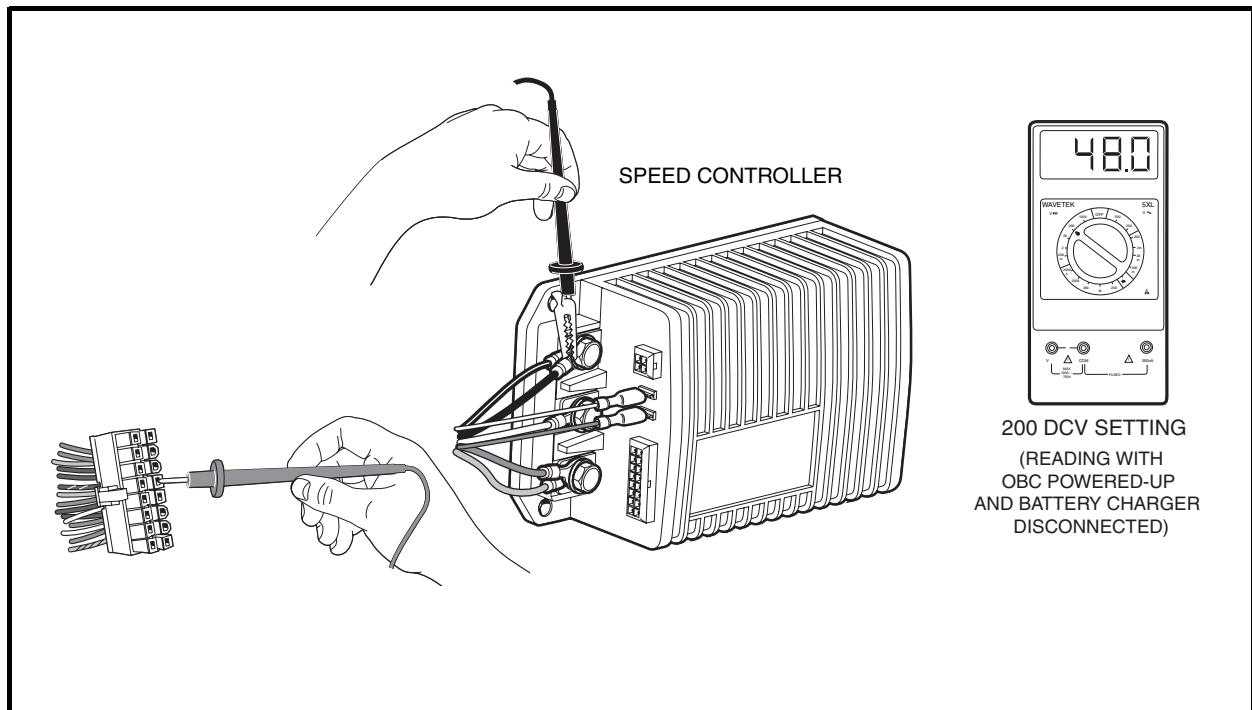

Figure 11-12 Pin 5 Test
4. Set a multimeter to 200 volts DC. Insert the red (+) probe of the multimeter into pin 5 (light blue wire) of the 16-pin connector. **See following CAUTION.** Using an alligator clip, connect the black (–) probe to the B– terminal of the speed controller (**Figure 11-12, Page 11-24**).